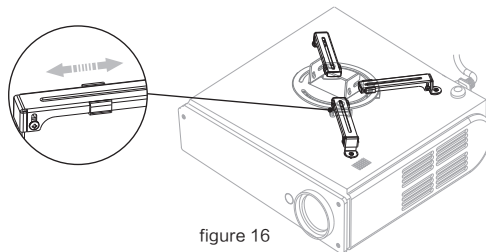

figure 16
2. If there are 3 holes, the installation arms (4-3) need to be taken apart from Installation bracket firstly. Connect 3 installation arms (4-3) to the projector, and then connect the installation arms (4-3) to the installation base (4-6). However, the installation base needs to be the center of projector. Figure 16